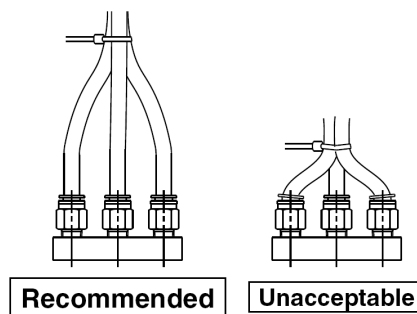

Figure 8
- Do not apply external force to the fitting when binding tubes with bands, etc. see Figure 8